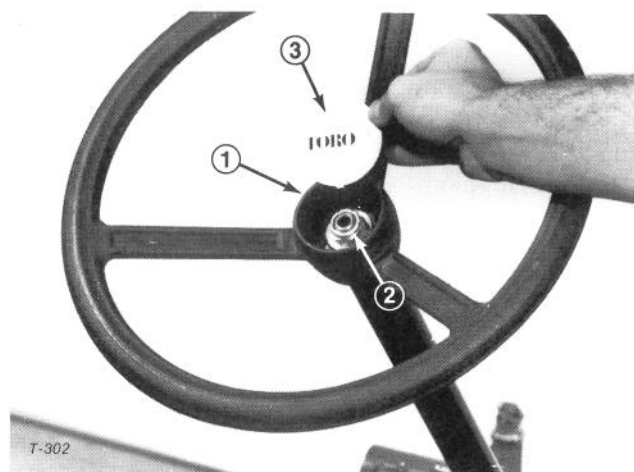

Figure 4
2. Remove jam nut from steering shaft. Slide steering wheel onto steering shaft and assure small cutout in hub, which accommodates the tab on steering cap, points toward the seat (Fig. 4).
3. Secure steering wheel in place with jam nut (Fig. 4) and tighten it to 70 ft-lb (95 N·m).
4. Insert tab of steering cap into cutout in steering wheel hub (Fig. 4). Press cap into groove in hub.